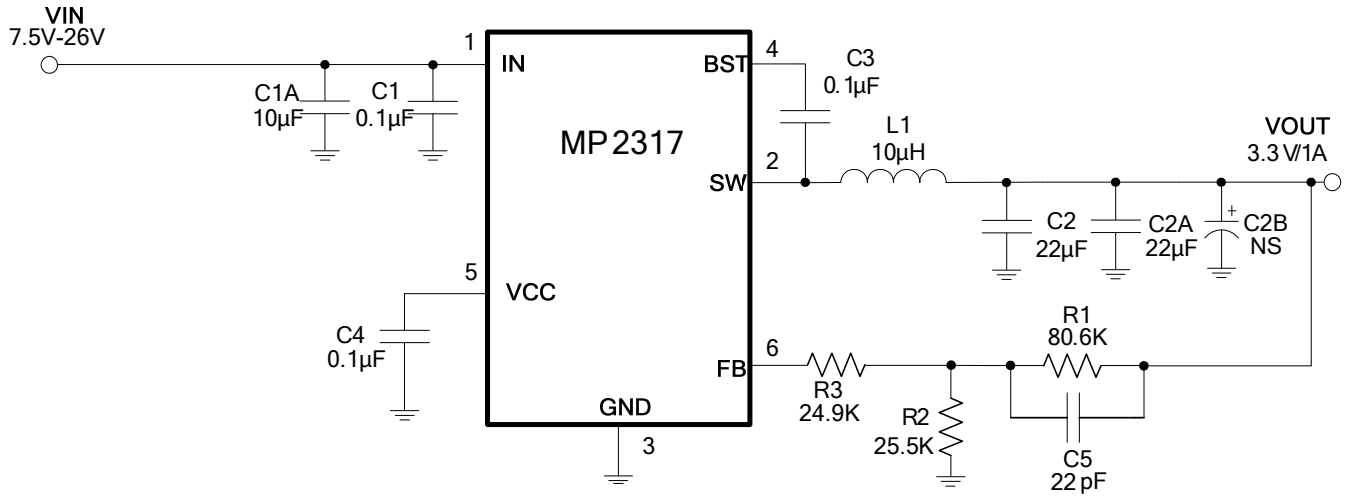
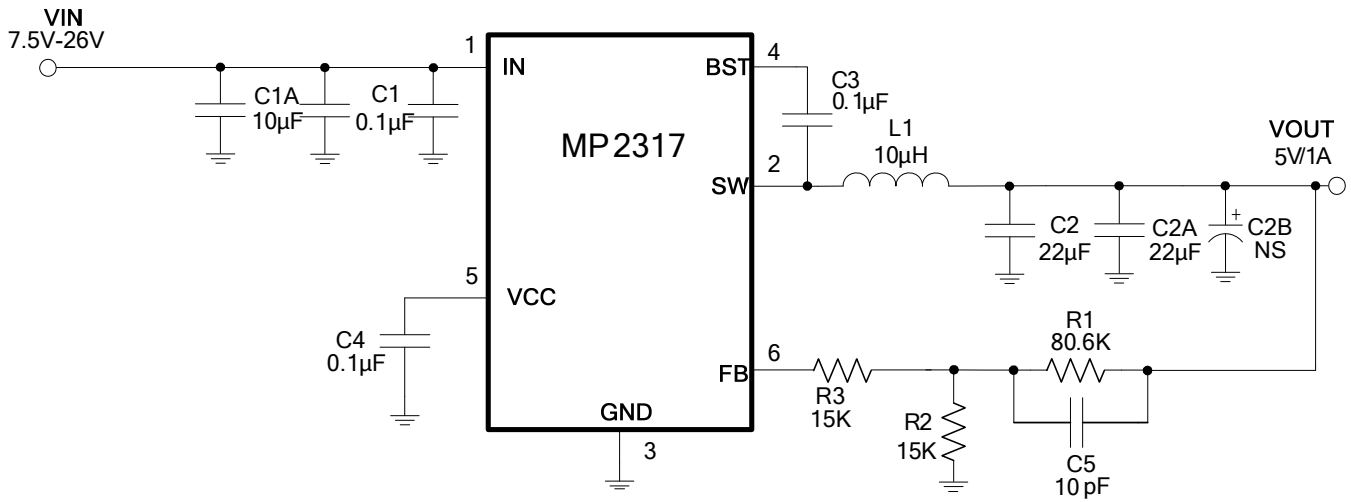

Figure 7: 3.3V/1A Output
Figure 8: 5V/1A Output
- 7) The recommended layout is based on Figure 8: Typical Application Circuit.
The detailed application schematics are shown in Figure 7 and Figure 8. The typical performance and circuit waveforms are shown in the Typical Performance Characteristics section. For more device applications, please refer to the related evaluation board datasheets.